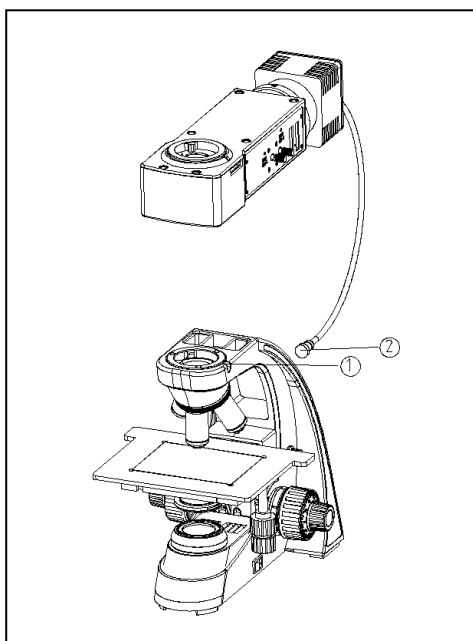

Fig. 3
1. Loosen the epi-illuminator screw ① on the microscope body connector. (See Fig. 3)
2. Then, align the dovetail connector on the bottom of the epi-illuminator slightly to the right of the centre of the circular hole in the microscope body. Slightly tilt it to the left, insert it along the hole, and tighten the locking screw ①.
3. Connect the epi-illuminator light source cable ② to the socket on the back of the microscope body.